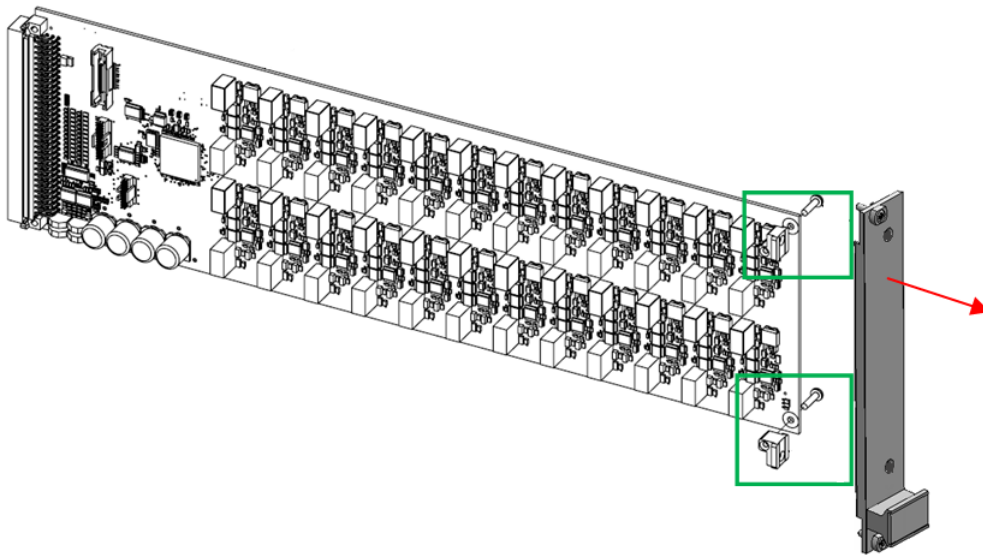

Fig. 2-3 Removing the Front Panel of the ES4435.1
- Remove the front panel of the ES4435.1 by loosening the assembly bracket from the board (see Fig. 2-3 – loosening the screws shown in a green box).
- The ES5371.1 comes with two assembly brackets with screws. Assemble the new assembly brackets on the ES4435.1 as shown in Fig. 2-3.